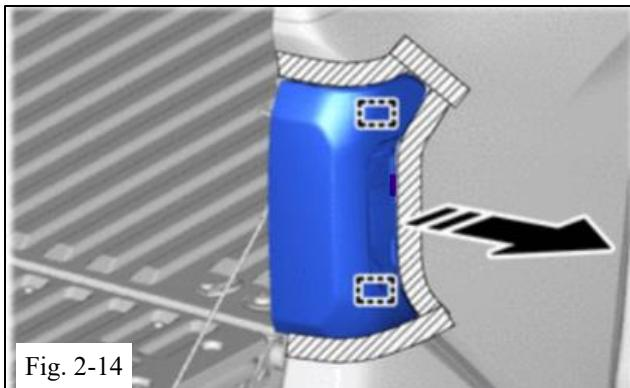
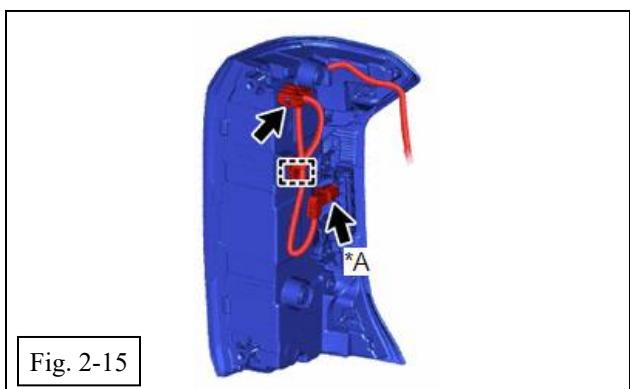

Fig. 2-14
Fig. 2-15
- (o) Apply protective tape around Rear Combination Lamp (Fig. 2-14).
- (p) Pull Rear Combination Lamp outboard to detach from the vehicle (Fig. 2-14). Disconnect the wire harness clip and connector(s) (Fig. 2-15) then set the part aside.